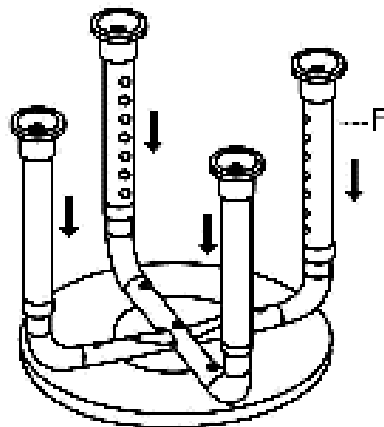

Fig. 5
2. Select required height by adjusting the leg in an upwards or downwards motion and release the metal locking pin in front of the required hole position (Fig. 5).